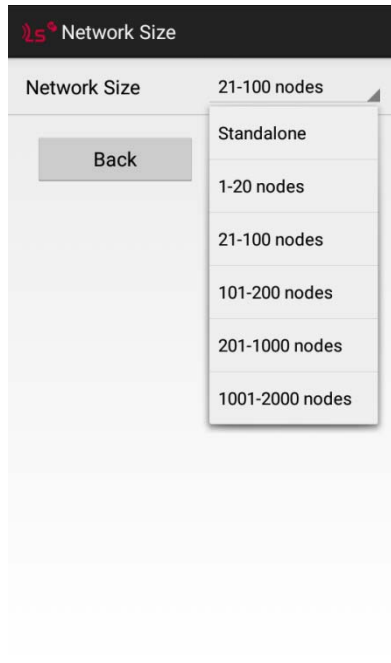

Figure 6: Network size configuration.
- 1) **Network size.** The size of the network (Figure 6) defines the slot time for each of the dataloggers to send data to the gateway, in order to avoid data collision (see section 4.1. of this user guide).